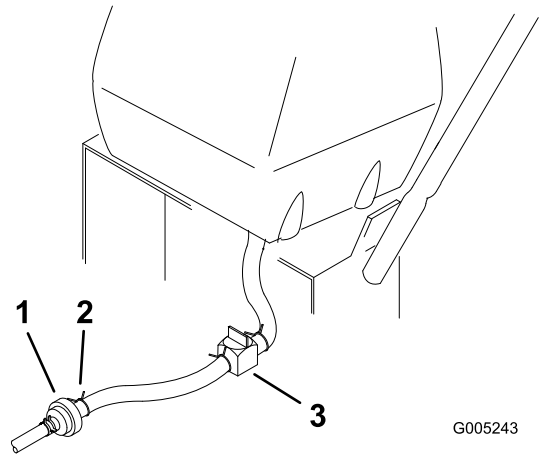

Figure 27
3. Close the fuel shut-off valve at the fuel tank (Figure 27).
4. Squeeze the ends of the hose clamp together and slide it up the fuel line away from fuel filter (Figure 27).
5. Pull the fuel line off the fuel filter (Figure 27).